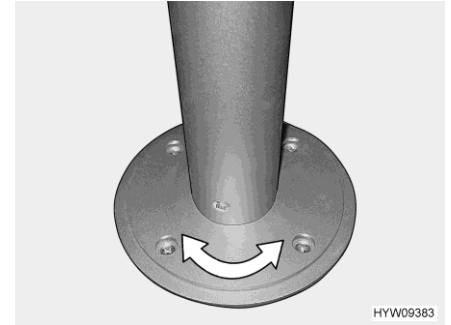

Fig. 97 Pillar table leg (rotatable)
- Rotate table top to the desired position. In order to do this, you need a little effort, because the table top rotates against the friction resistance on the pillar table leg (Fig. 97).